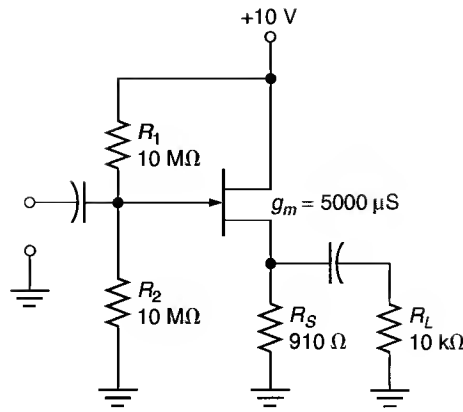

FIGURE 12.67
40. Determine the values of A_v , Z_{in} , and Z_{out} for the amplifier in Figure 12.67.